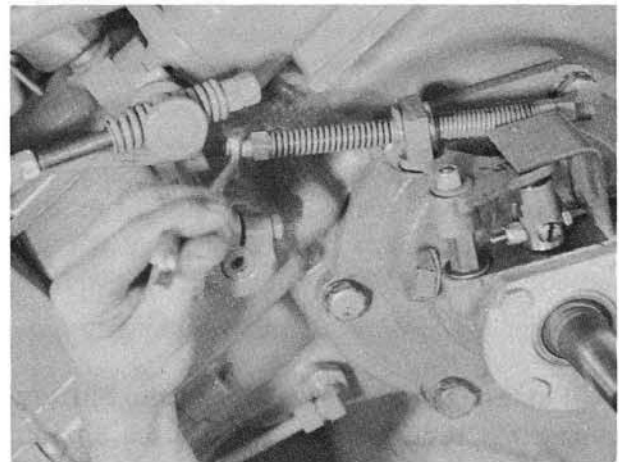

Figure 48
26. Now thread two Hex Head Nuts (201-N) to the limit of the threads on the Over Center Lock Spring Guide (6757), as in Figure 48.